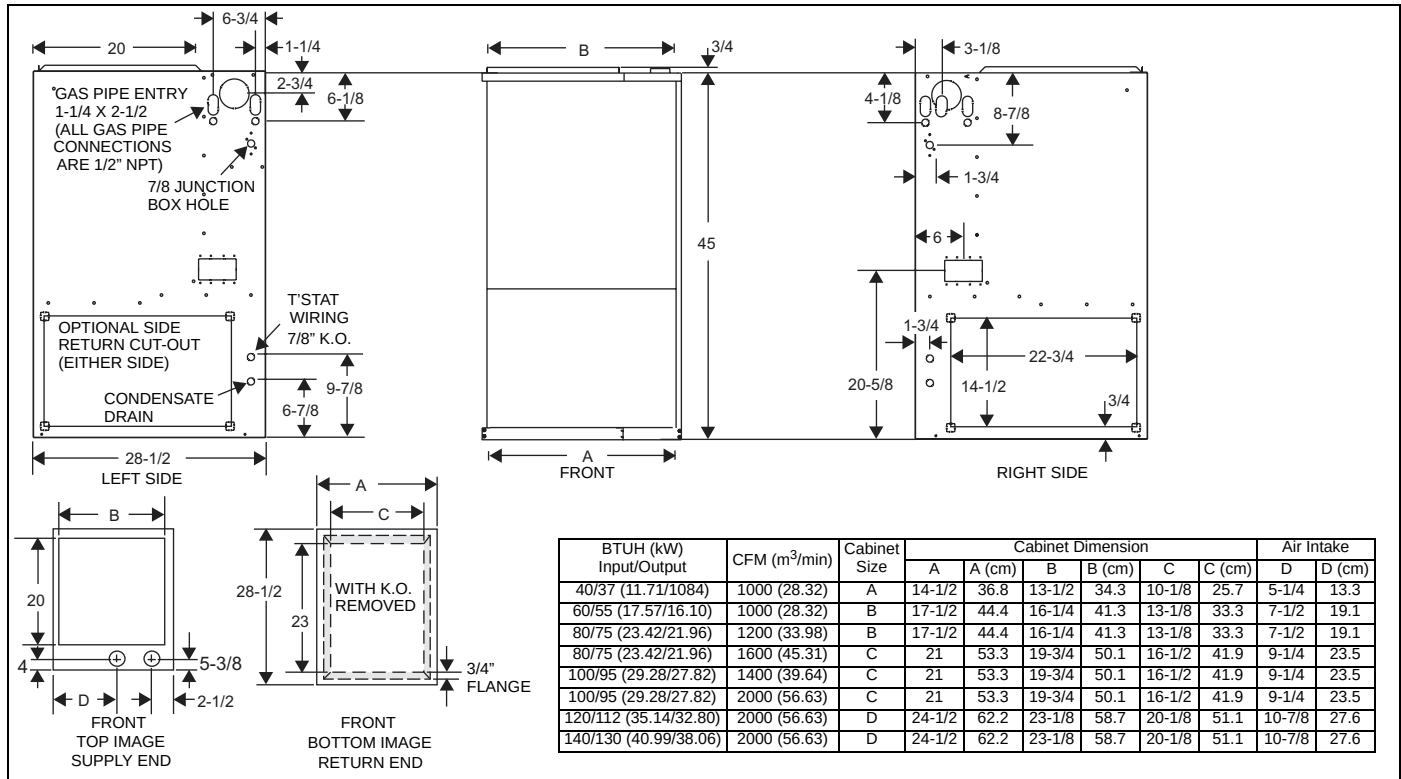
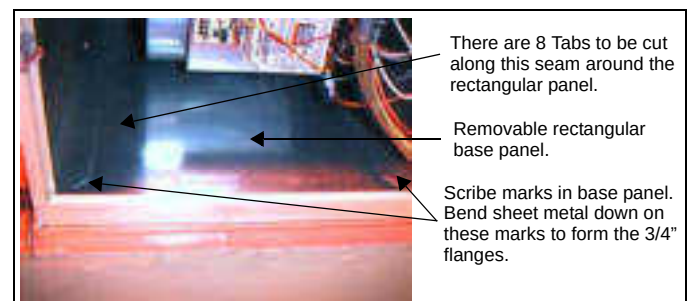

FIGURE 1: Dimensions
FIGURE 2: Furnace Base Rectangular Perforated Panel
3. Bend the 3/4" flanges that will be used to attach the return air plenum using the scribe marks in the furnace base. Refer to Figure 1 "Bottom Image Return End" and Figure 2 for flange locations.
4. Be sure to seal the furnace to plenum connections to prevent air leakage. Refer to Figure 1 for unit and plenum dimensions.
IMPORTANT: Some accessories such as electronic air cleaners and pleated media may require a larger side opening. Follow the instructions supplied with that accessory for side opening requirements. Do not cut the opening larger than the dimensions shown in Figure 1.
Gas piping may be connected from either side of the furnace using any of the gas pipe entry knockouts on both sides of the furnace. Refer to Figure 1 dimensions.